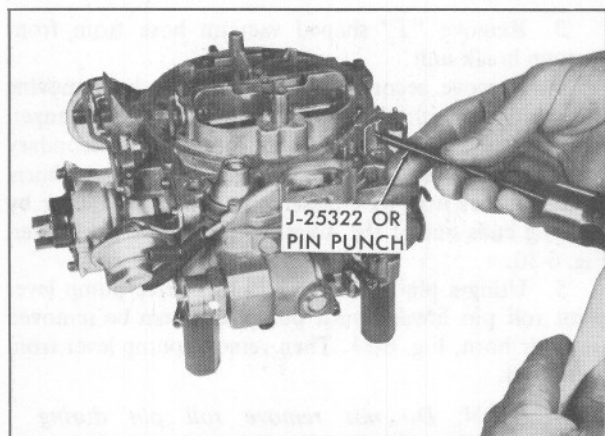

Fig. 6-31 Removing Roll Pin
5. Using a pin punch or J-25322, drive pump lever pivot roll pin inward until pump lever can be removed from air horn, Fig. 6-31. Then remove pump lever from pump rod.